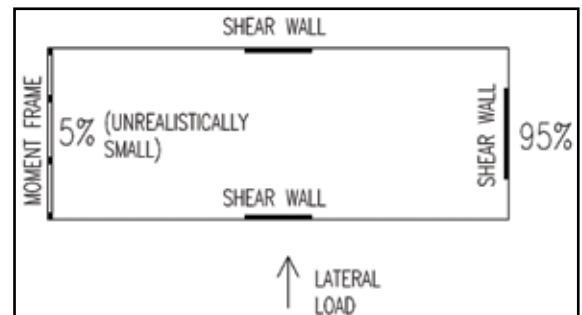

Figure 1: Illustration of unrealistic computer-generated lateral load distribution to shear walls and moment frame.
- Floor diaphragm strength and stiffness: Do floor diaphragms have sufficient strength and stiffness to transfer loads to the lateral load resisting system, and are connections between diaphragms and the lateral load resisting elements sufficient? Is the distribution of lateral loads to the lateral load resisting system resulting from a "rigid diaphragm" assumption a realistic one? *Figure 1* illustrates how a computer analysis distributed lateral loads to the shear walls and moment frames in a precast concrete parking structure. A rigid diaphragm default setting was used in the computer analysis. While the structure did have substantial torsional stiffness, engineering judgment dictated that the computer analysis resulted in too little load going into the moment frame. The design was revised to require the moment frame to carry substantially more lateral load than the computer analysis required.